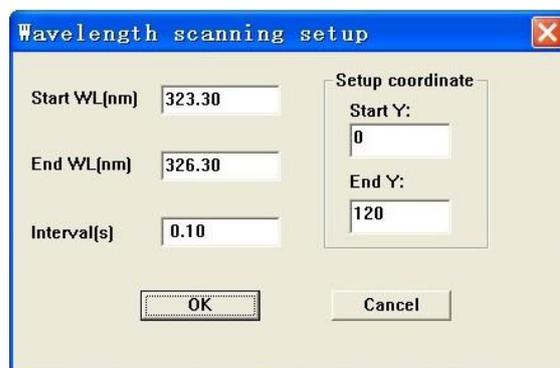

Figure 9-4
- Press "Settings" to show the "Wavelength setup" dialog, as shown in Figure 9-4. The range of wavelengths is 190-900, and the ranges of scanning intervals are 0.01 and 0.1-1.0.